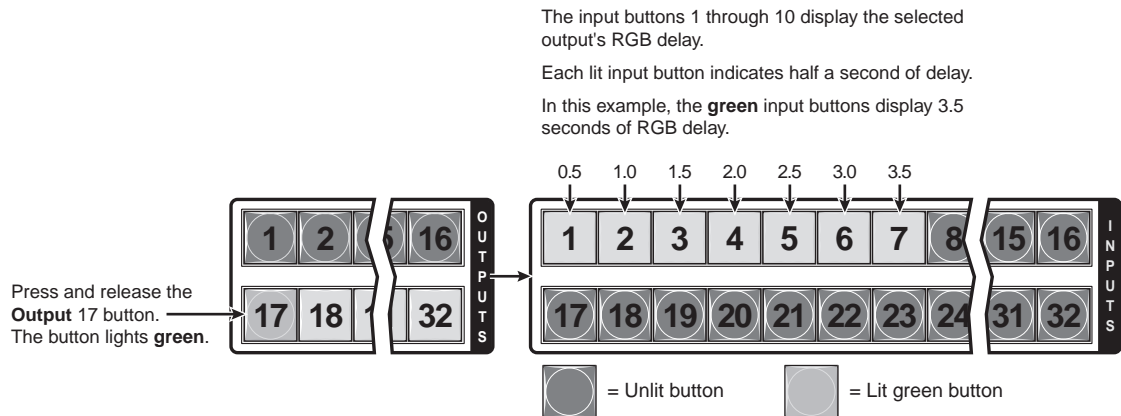

Figure 3-39 — Select an output
3. Press and release the output 17 button (figure 3-39).